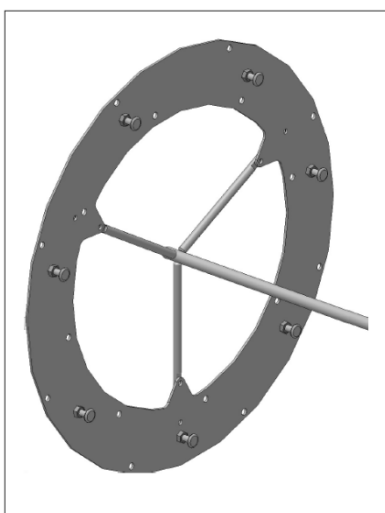

Figure 3.7
4. Put the points of the meat forks through the appropriate holes in the rotor disks (see figure 3.7). The other end of the meat forks must be put through the corresponding holes in the opposite rotor disk.